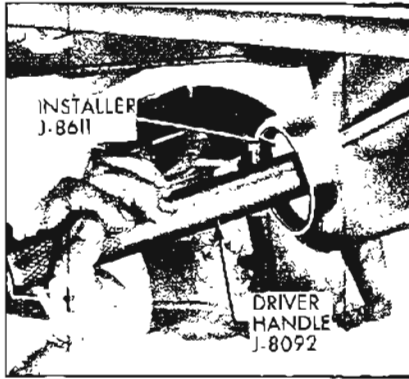

Figure 6-18—Installing Front Pinion Bearing Outer Race
2. If front pinion bearing is to be replaced, install new outer race using Installer J-7817 with Driver Handle J-8092. See Figure 6-18.